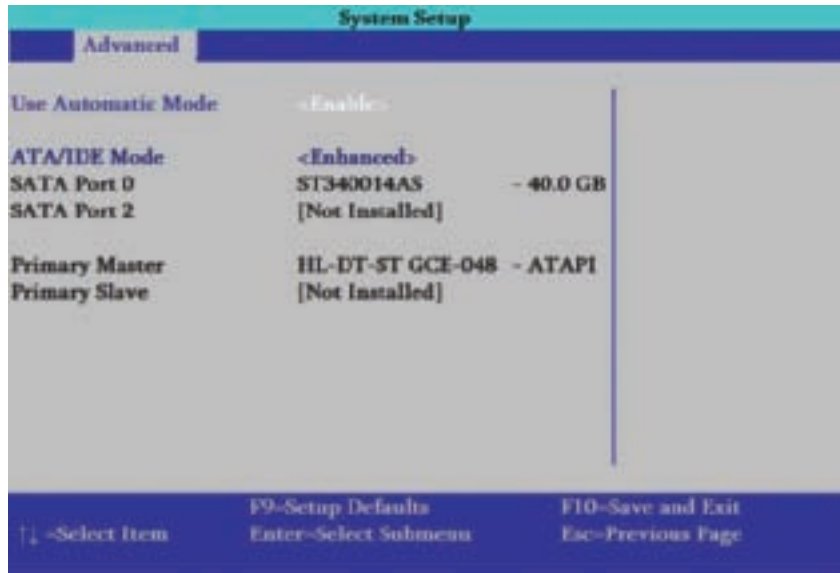

Figure 8-27 BIOS setup screen showing a SATA hard drive and PATA CD drive installed
8. To verify the drive was recognized correctly, enter BIOS setup and look for the drive. Figure 8-27 shows a BIOS setup screen on a system that has two SATA connectors and one PATA connector. A hard drive is installed on one SATA connector and a CD drive is installed on the PATA connector.